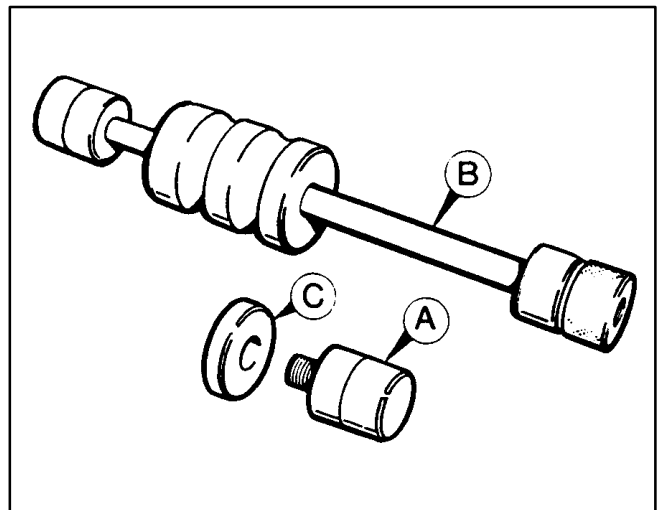

FIGURE 8-17. CAMSHAFT BUSHING TOOL
1. Fit the tool guide (Figure 8-17, Item A) into the bushing from inside the crankcase.
2. Fit the slide hammer (B) onto the guide threads.
2. Screw on the depth plate (Figure 8-17, Item C).